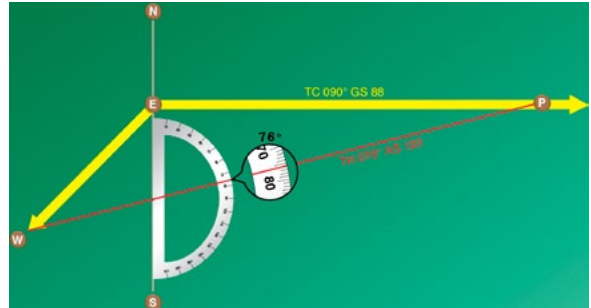

Figure 39-1. – Wind triangle as drawn.
- This measurement represents groundspeed in knots – in our example it would measure 88 knots (not to scale in Figure 39-1)